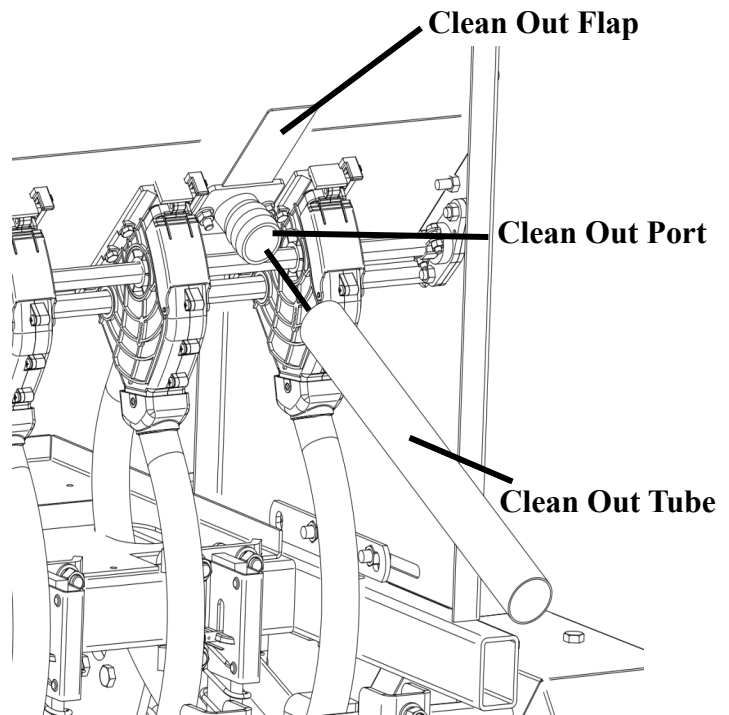

**Fig. 29**
- At the end of each operation or end of season, clean the front and rear hoppers, Fig. 29.